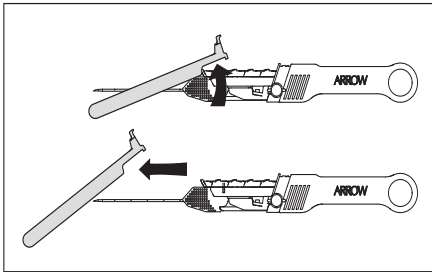

Figure 2
5. Remove needle guard (refer to Figure 2).